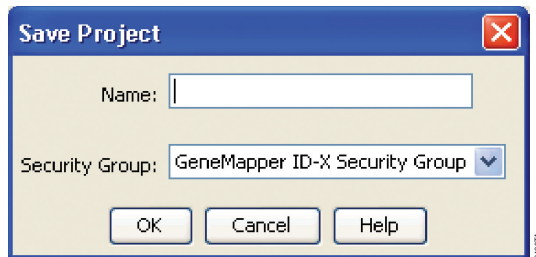

Figure 24. 'Save Project' window.
9. If all analysis requirements are met, the 'Save Project' window will open (Figure 24).